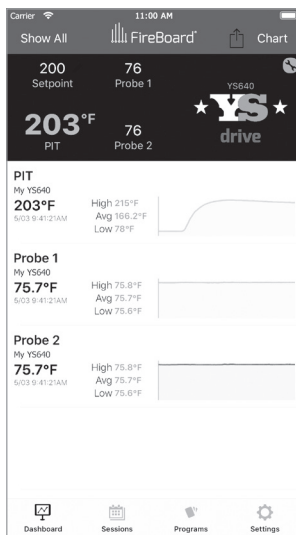

FIG 36
- You can choose between two visualizations of the running temperature data: a basic chart, and a detailed chart. You can toggle between the two by tapping on the word “Chart” or “Detail,” respectively, in the title bar area of the app (FIG 36, 37).